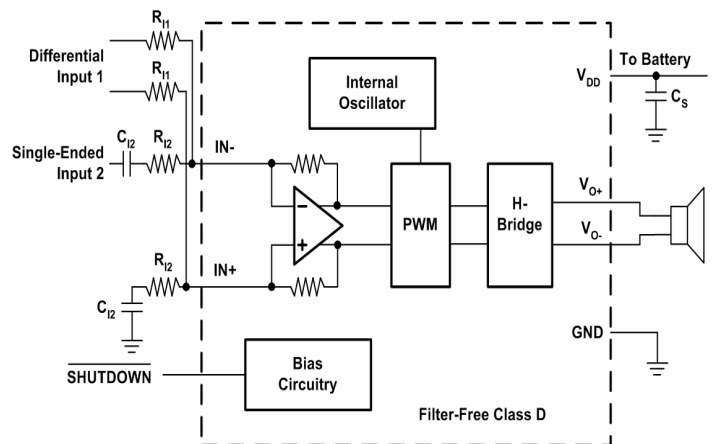

Figure 27. Application Schematic With EUA2005 Summing Input and Single-Ended Input Signals
Figure 27 shows how to sum a differential input signal and a single-ended input signal. Ground noise can couple in through $IN+$ with this method. It is better to use differential inputs. The corner frequency of the single-ended input is set by C_{I2} , shown in equation (8). To assure that each input is balanced, the single-ended input must be driven by a low-impedance source even if the input is not in use